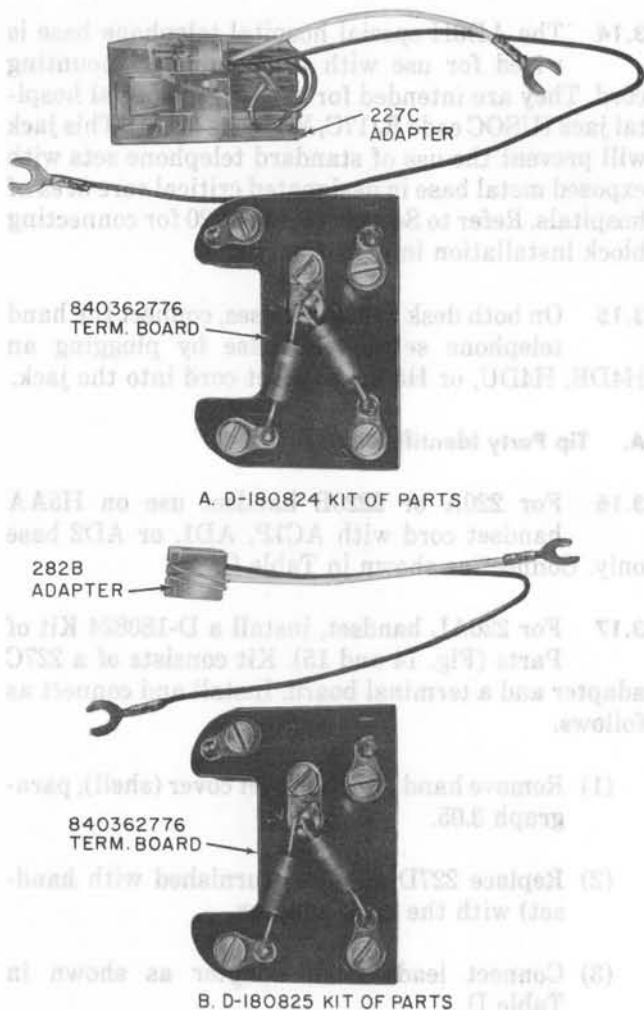

Fig. 14—D-180824 and D-180825 Kit of Parts
3.17 For 220AL handset, install a D-180824 Kit of Parts (Fig. 14 and 15). Kit consists of a 227C adapter and a terminal board. Install and connect as follows.
3.18 For 220C, 226A, 2220C (later version), and 2226A install a D-180825 Kit of Parts (Fig. 14 and 16). Kit consists of a 282A (MD) or 282B adapter and a terminal board. Install and connect as follows.